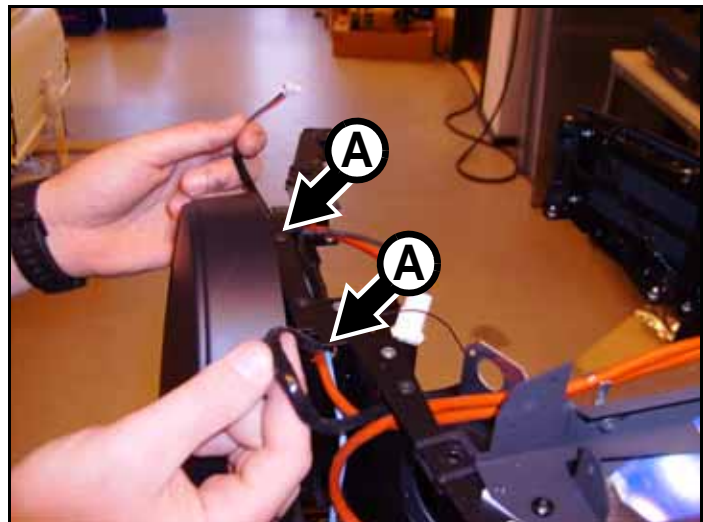

Figure 54
59. You must now route the lamp fan leads from the lamp fans to the front of the head just as the original leads were routed. See Figure 54. Thread the left-hand side lamp fan leads through the holes **A** provided for them alongside the ignitor leads. You will plug the lamp fan leads into a connector on the zoom/focus module when you have installed this module later.